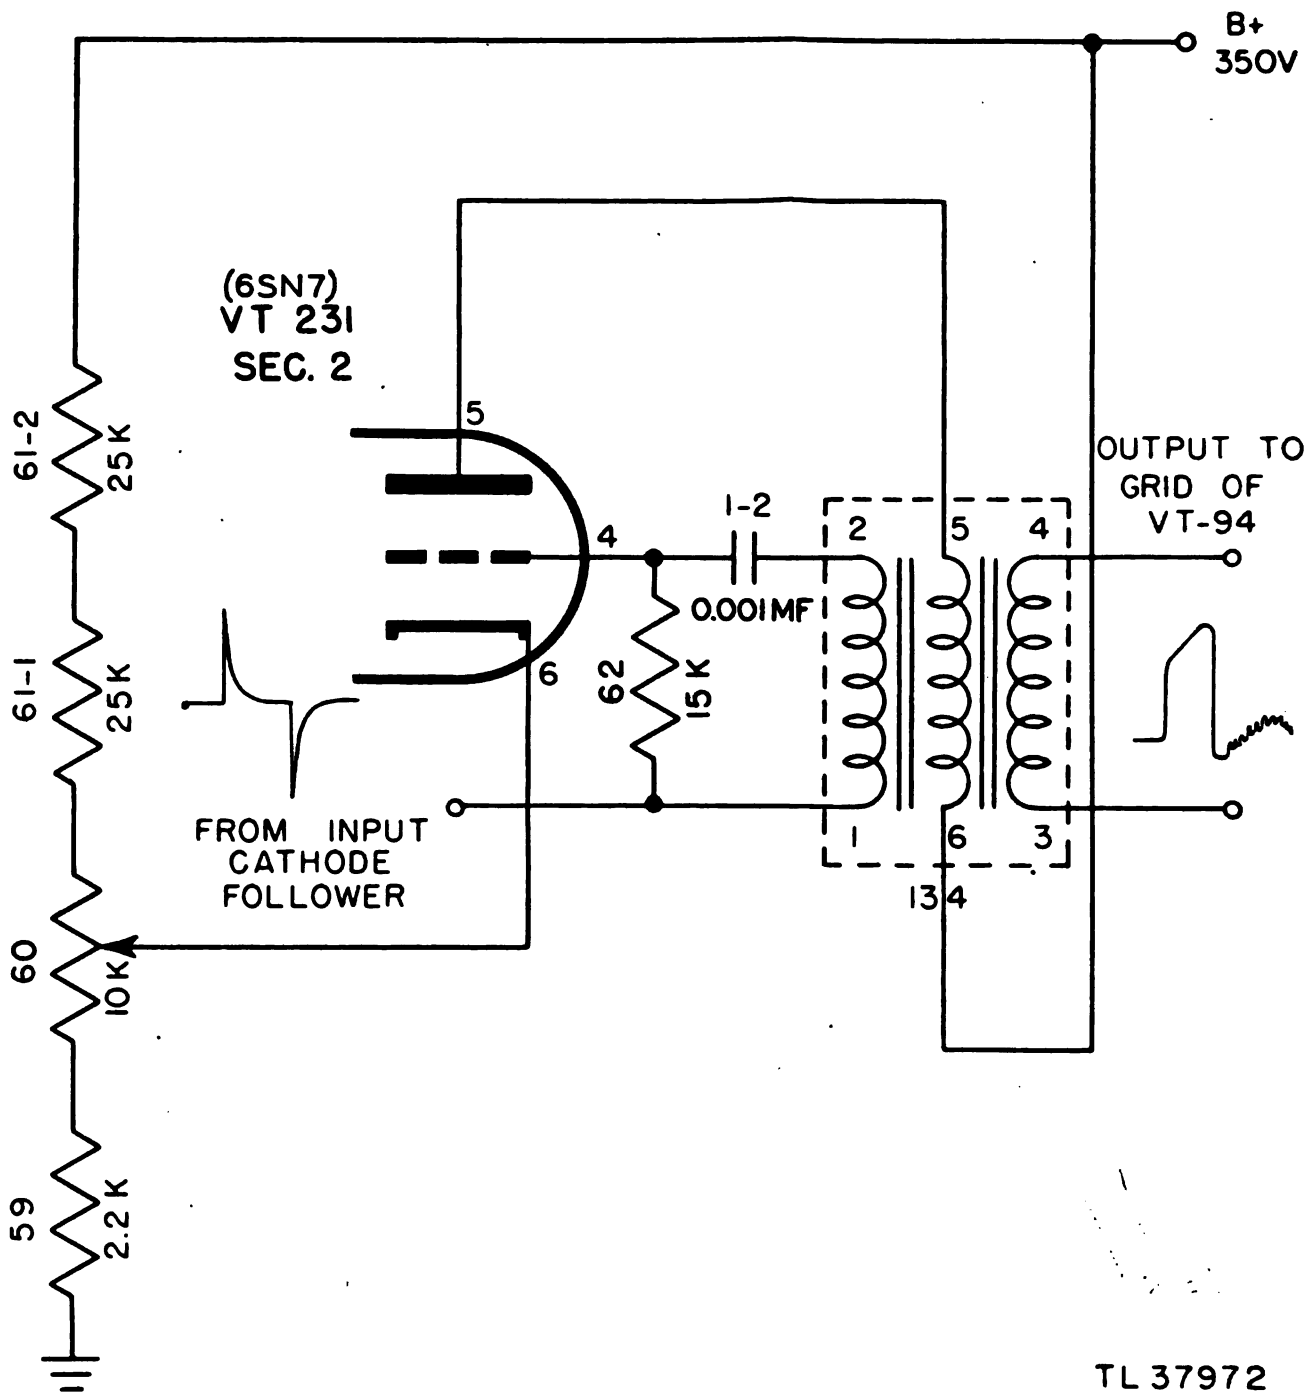

Figure 8. Blocking oscillator, VT-231, partial schematic.
a. GENERAL. The second half of the VT-231 is connected as a blocking oscillator. (See fig. 8.) It is a triggered regenerative oscillator with a transformer supplying the required feedback from the plate